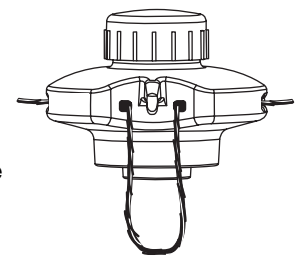

Fig. 6
2. Push the ends through until they stick out of the sides of the head (Fig. 6).